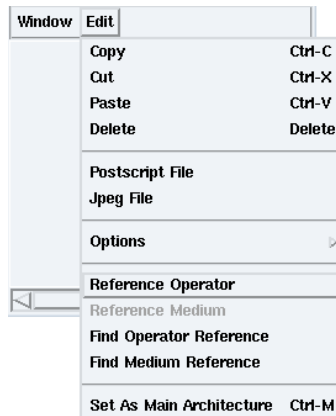

Figure 1.15: Edit / Reference Operator
- to create a reference to the operator Uinout, **Edit / Reference Operator** (cf. figure 1.15) → dialog window: click **user**, double click **Uinout** → dialog window: u1,